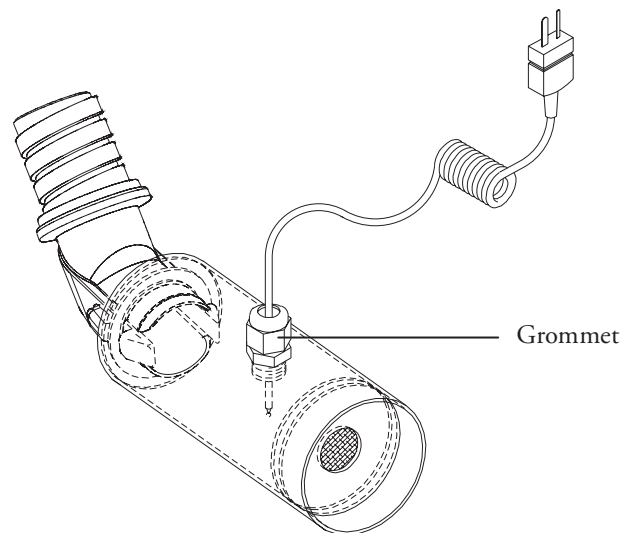

Figure 9. Test kit used to calibrate the Model 875 warming unit.
5. Ensure the thermocouple is inserted through the grommet of the cylindrical test kit body. The thermocouple tip should be approximately centered in the cross section of the test kit (see Figure 9).